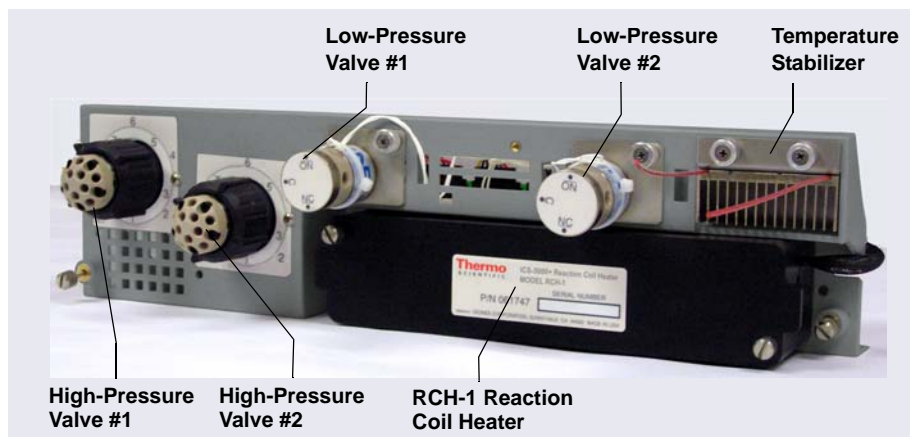

Figure B-22. *Dionex ICS-6000 Automation Manager: Example Configuration*
The AM consists of a tray for installation of valves and other components that are used for performing matrix elimination, large volume preconcentration, and other functions (see Figure B-22). The AM is installed into the upper compartment of the DC.
2. Slide the temperature stabilizer into the opening and tighten the captive thumbscrews (see Figure B-22).